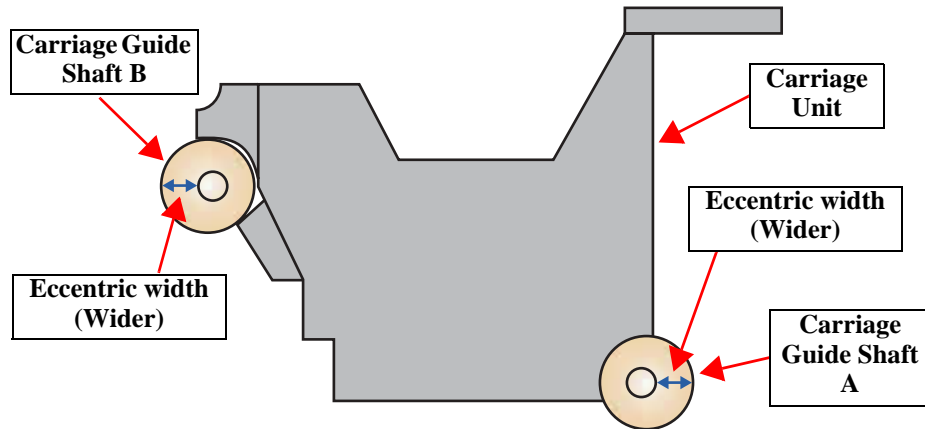

Figure 4-79. Removing the Carriage Unit and Carriage Guide Shaft A
■ When lifting the Carriage Unit, fully take care not to scratch the Carriage Guide Shaft B. Refer to Figure 4-79, "Removing the Carriage Unit and Carriage Guide Shaft A".